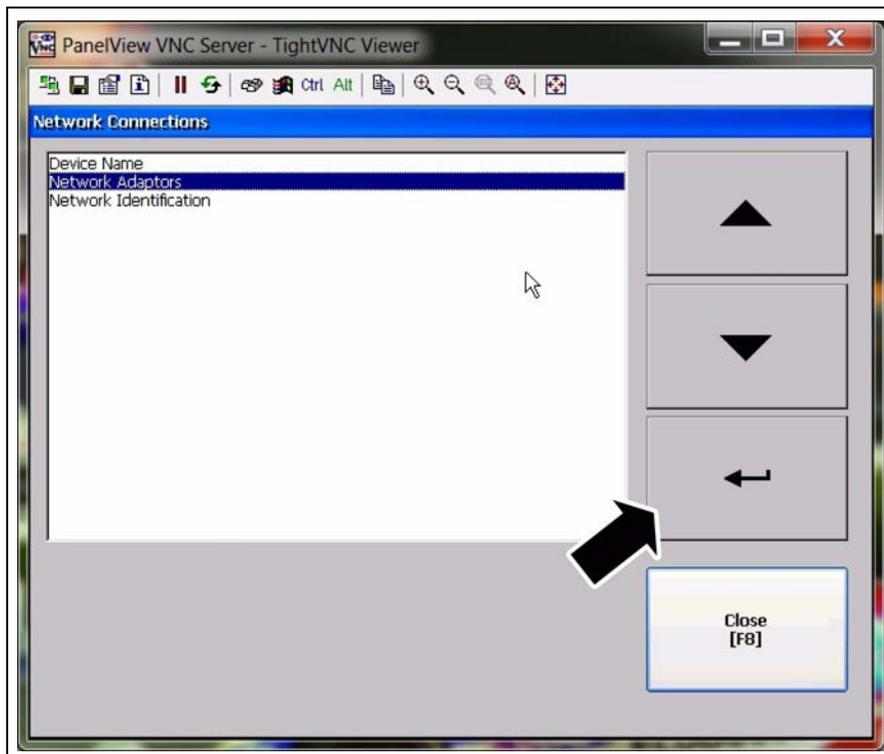

Figure 4D
4. Select Network Adaptors and press Enter. You now have buttons to change the IP or DNS addresses for the PanelView. (See Figure 4D.)